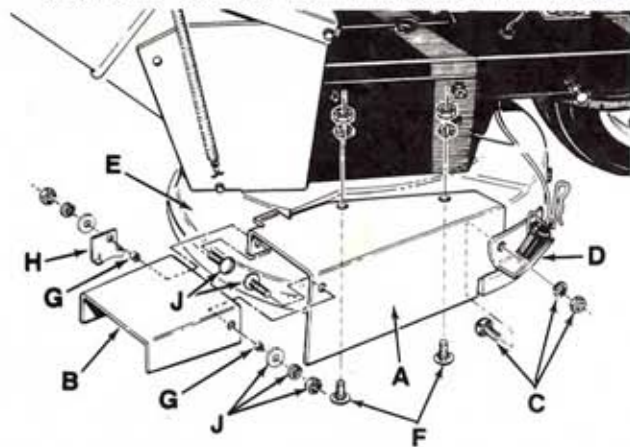

FIG. 1
10. Your tractor with the Tractor Shredder attachment in place is equipped with an engine interlock system. The tractor Shredder attachment also has an interlock switch (Figure 1) mounted on the engine pad that prevents engine being started without bottom 4578R (see repair parts exploded view) securely locked in place in engine pad. This system will prevent the engine from starting if the operator tries to start the engine while the transmission is in gear, bottom not installed in engine pad and/or the attachment clutch lever is in the engaged position. Before attempting to start the engine make sure the gear shift lever is in neutral and the belt tightener lever is in the disengaged position, then firmly apply the foot brake. The parking brake must always be disengaged when you put the tractor in motion. If the tractor is operated with the parking brake engaged, serious damage may result.
2. In a small carton is the deflector (A, Fig. 1) and adjustable deflector (B). Remove one bolt (C), lockwasher and nut from interlock switch bracket
3. Position adjustable deflector (B, Fig. 1) over end of deflector (A) and align holes. Insert bushings (G) into holes and position deflector stop (H) against deflector (A) and secure with 2-3/8 x 1" truss head machine screws, plain washers, lock-